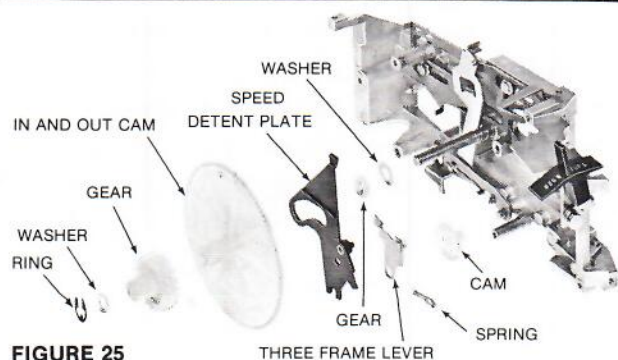

FIGURE 25
5. Remove the RING, the SPACER, and the GEAR from the shaft for the in and out cam, Figure 25.